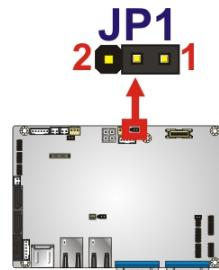

Figure 4-2: LVDS1 Voltage Selection Jumper Location
**Jumper Location:** See Figure 4-2